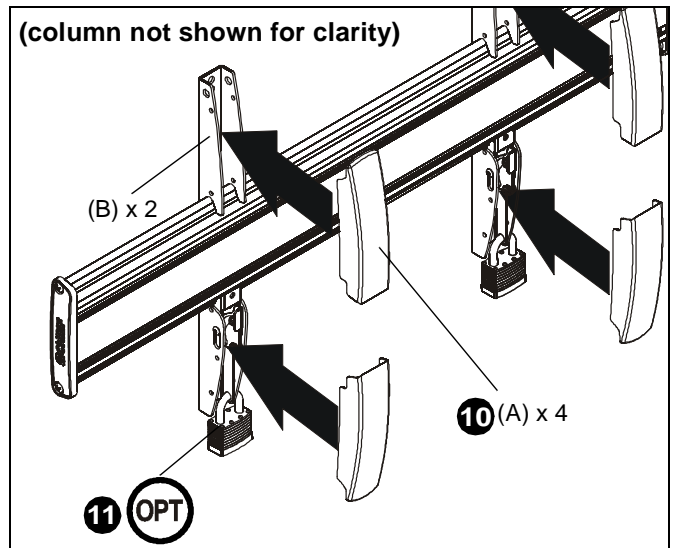

Figure 11
10. Snap four upright covers (A) onto uprights. (See Figure 11)
11. (Optional) Use padlocks (not provided) to secure uprights to head assembly. (See Figure 11)